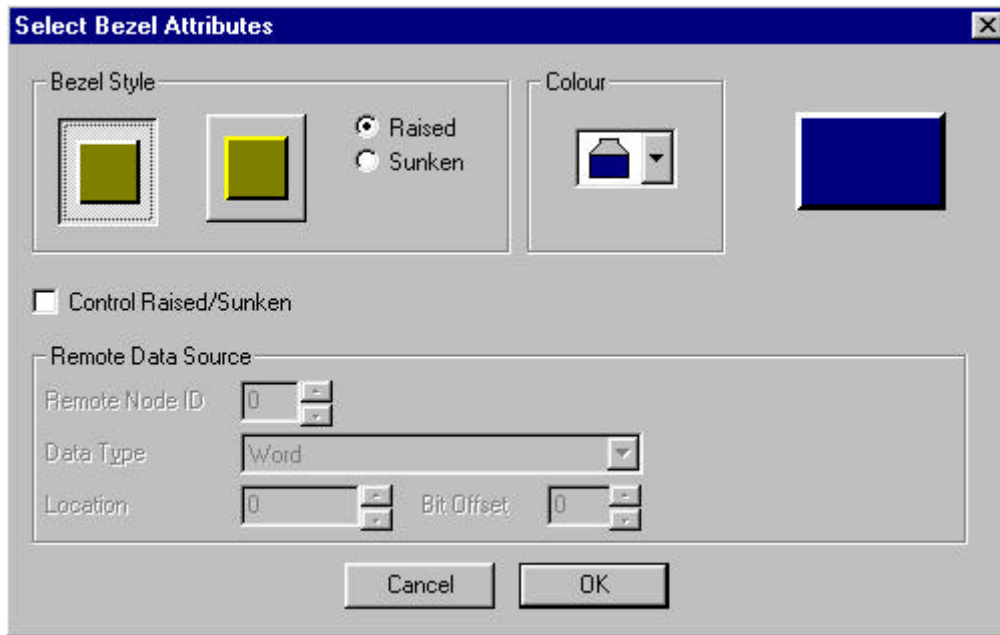

Figure 8.4 – Select Bezel Attributes
4. The Table Creation windows open (Fig 8.4)